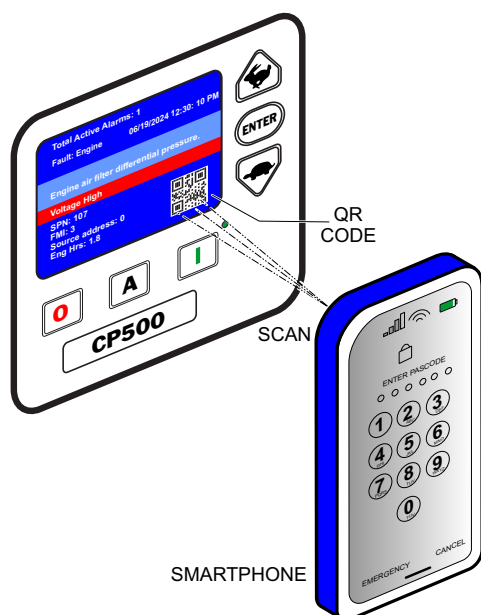

Figure 20. Smart Phone Scanning QR Code
- To obtain more detailed information about the engine failure, using a **smart phone**, scan the QR code as shown in Figure 20 .